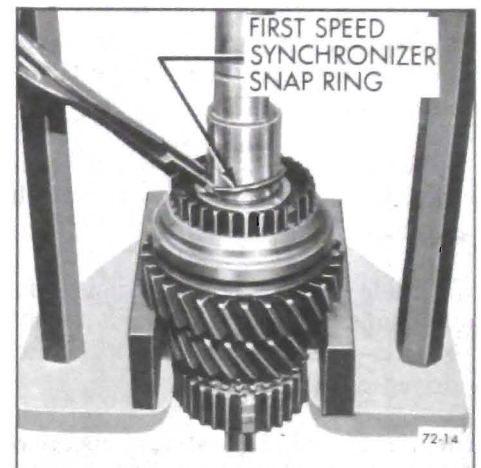

Figure 72-14 - Removing First Speed Synchronizer Snap Ring
5. Remove first speed synchronizer snap ring. See Figure 72-14.